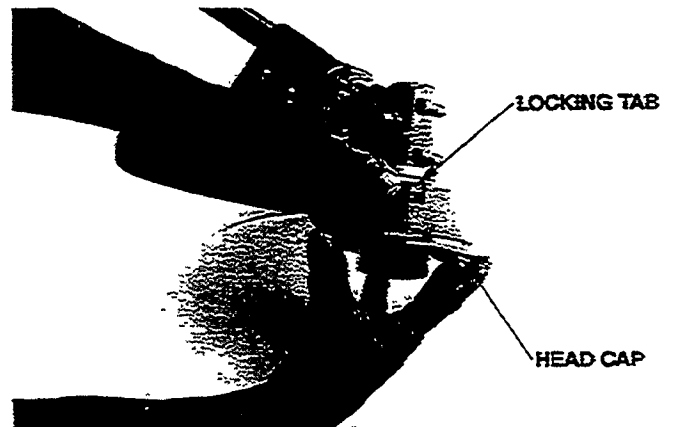

Figure 18
- **Note:** Never operate trimmer with more than six (6) inches of line extended outside the rotary head. Excessive line length can often be identified by low engine RPM when throttle lever is in the full throttle position.
- Push in one of the locking tabs, releasing it from its notch (Figure 18, 19), and pull on the rotary head cap.